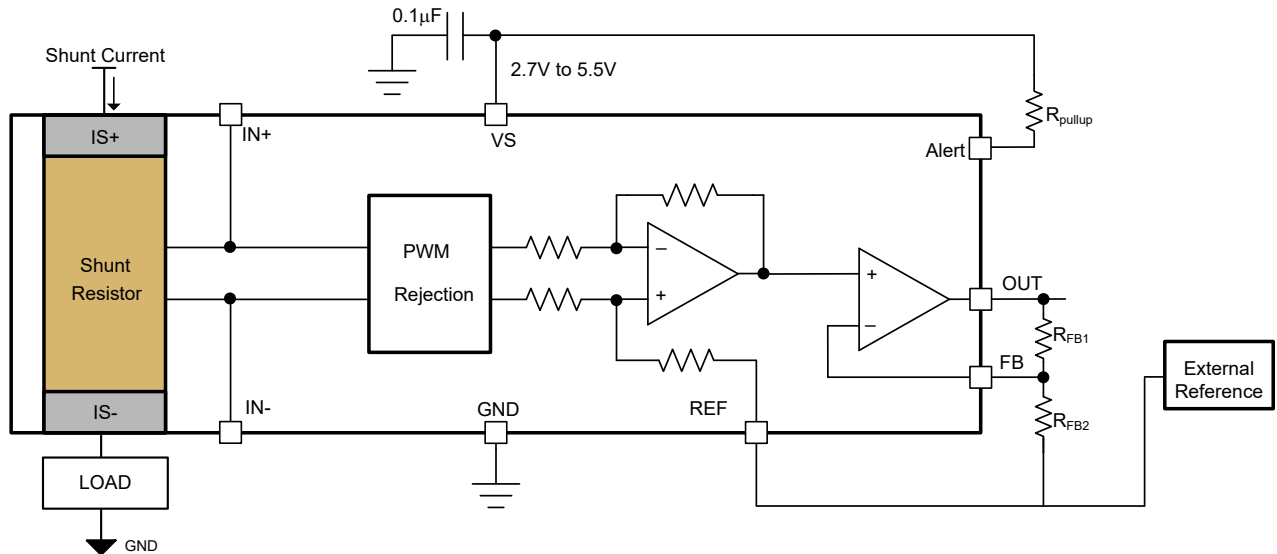

図 6-8. Adjustable Gain Setting With External Resistor Divider
The INA750x features adjustable gain with two external resistor network. The default gain is 40mV/A, and with added external adjustable gain resistor network, total gain (G) can range up to 800mV/A. 図 6-8 shows two external resistors R_{FB1} and R_{FB2} configured for added external gain. 式 2 can be used for calculating external adjustable gain and 式 3 shows the total gain of the system with external adjustable gain. The REF pin and one end of resistor R_{FB2} is connected to external reference based on needed voltage at OUT pin as described in Adjusting the Output With the Reference Pin.